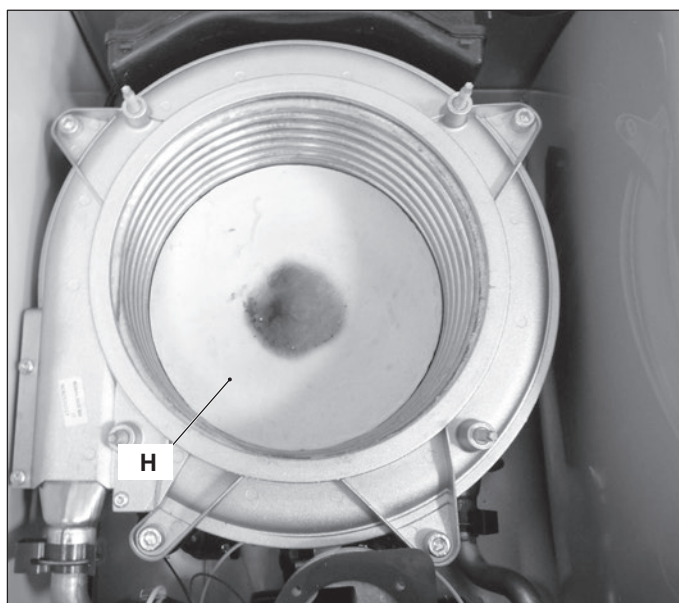

Figure 18.5
- 2 Remove the insulation "H" by pulling it towards the boiler front (Hung it with a screwdriver tip) (Figure 18.5).